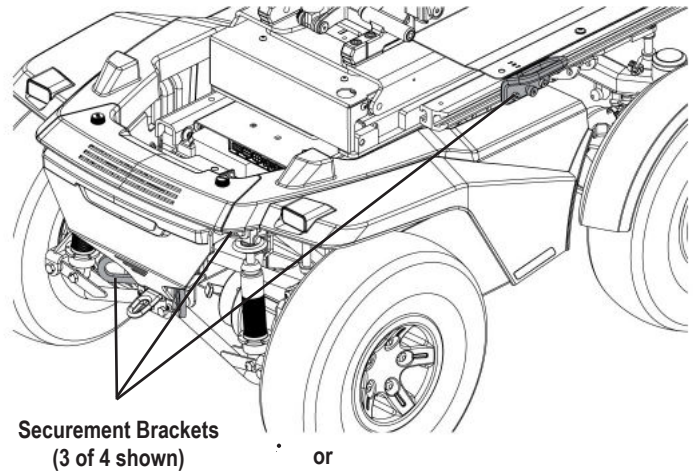

Figure 10. Occupied Transit System Securement Brackets
- Attach the four (4) tie-down straps to only designated, labeled transit securement points indicated by anchor symbols on the power chair. **See figures 10 and 11.** Tighten the straps sufficiently to remove all slack.